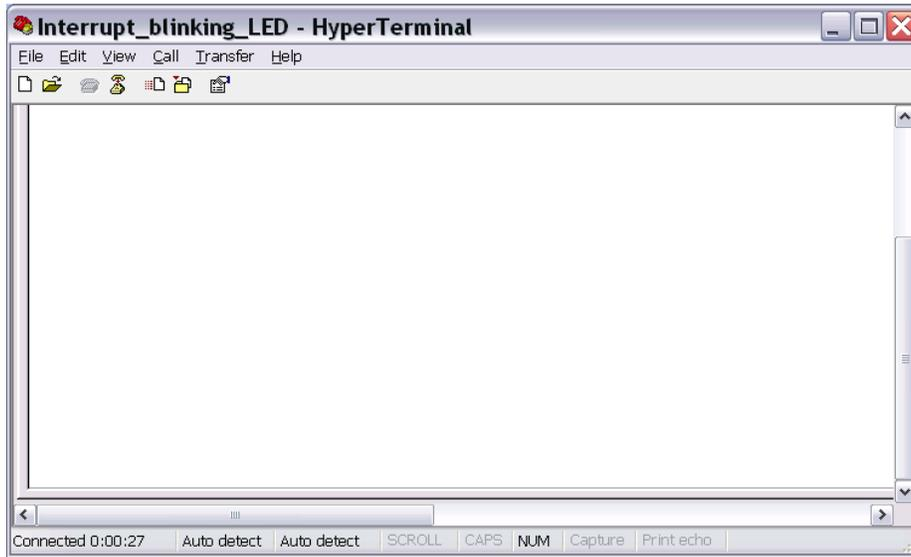

Figure 46 HyperTerminal
- The HyperTerminal with name Interrupt_blinking_LED is displayed, as shown in Figure 46.